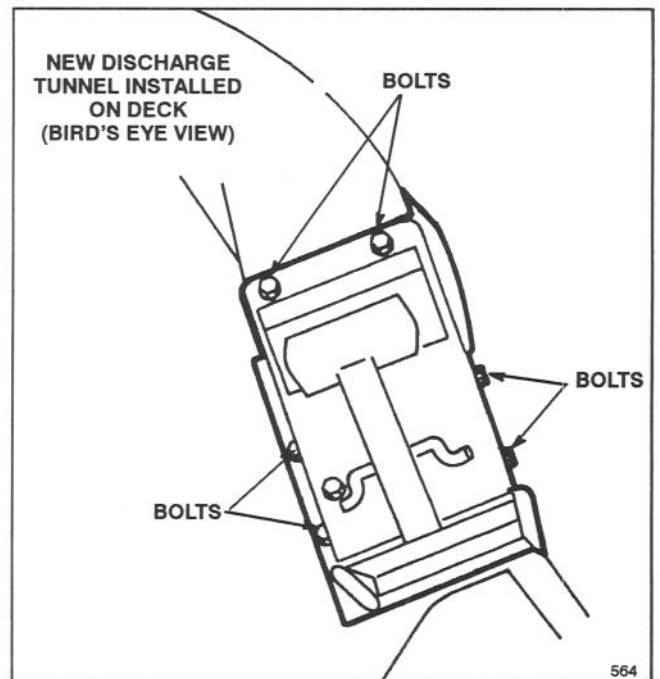
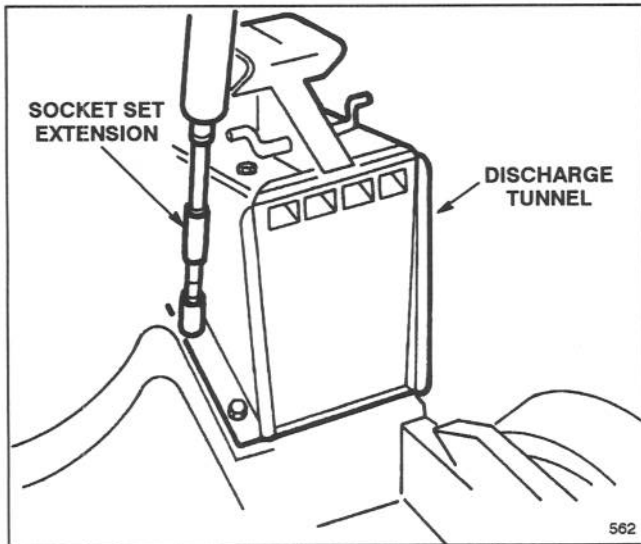

Figure 2
Figure 3
3. Position discharge tunnel and door assembly on deck. Align holes in discharge tunnel with holes in deck (Fig. 2).
4. Secure the new discharge tunnel to deck using (6) bolts removed from the cover-deflector assembly (Fig. 2). A socket set extension may be necessary to secure the front-left bolt (Fig. 3).